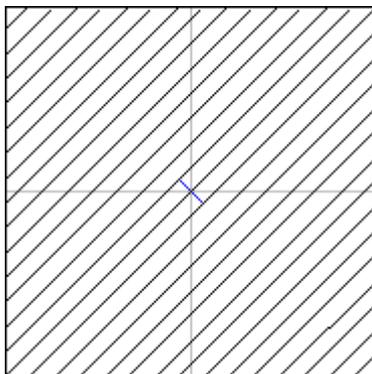

Fig. 3.2.09
**Angle Start:** The start angle of each hatch line. Fig.3.2.09 shows the fill representation when this value is  $45^\circ$ .